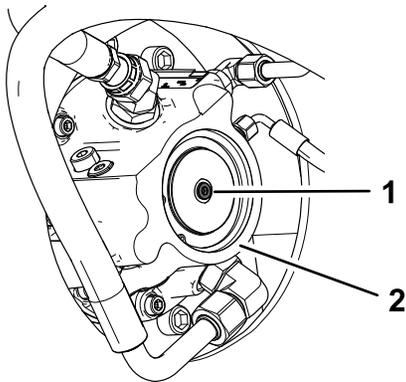

Figure 33
3. For each drive motor, remove the plug and install a screw (M8–1.25 x 40 mm) and washer (M8 x 16 mm) in its place (Figure 33). Hand-tighten the hardware.